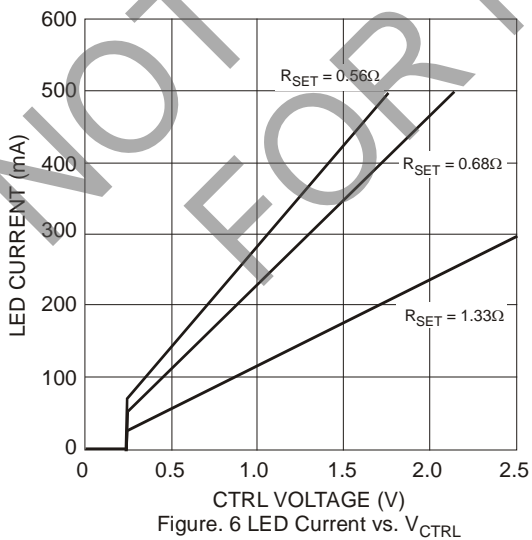

Figure 6 LED Current vs.  $V_{CTRL}$
- Refer to Figure 6 for the device derating curve.